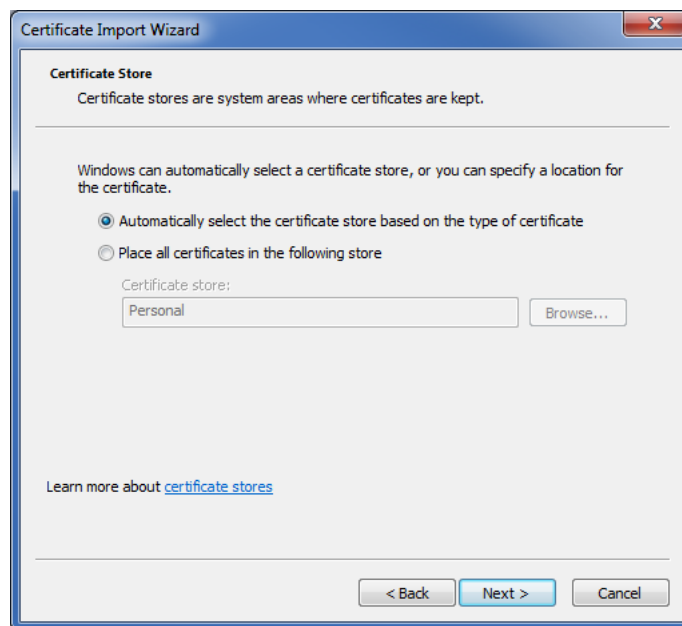

Fig. 2-7: 'Automatically Select the Certificate
8. Click on the **Automatically select the certificate store based on the type of certificate** radio button then click on **Next** (Figure 2-7).